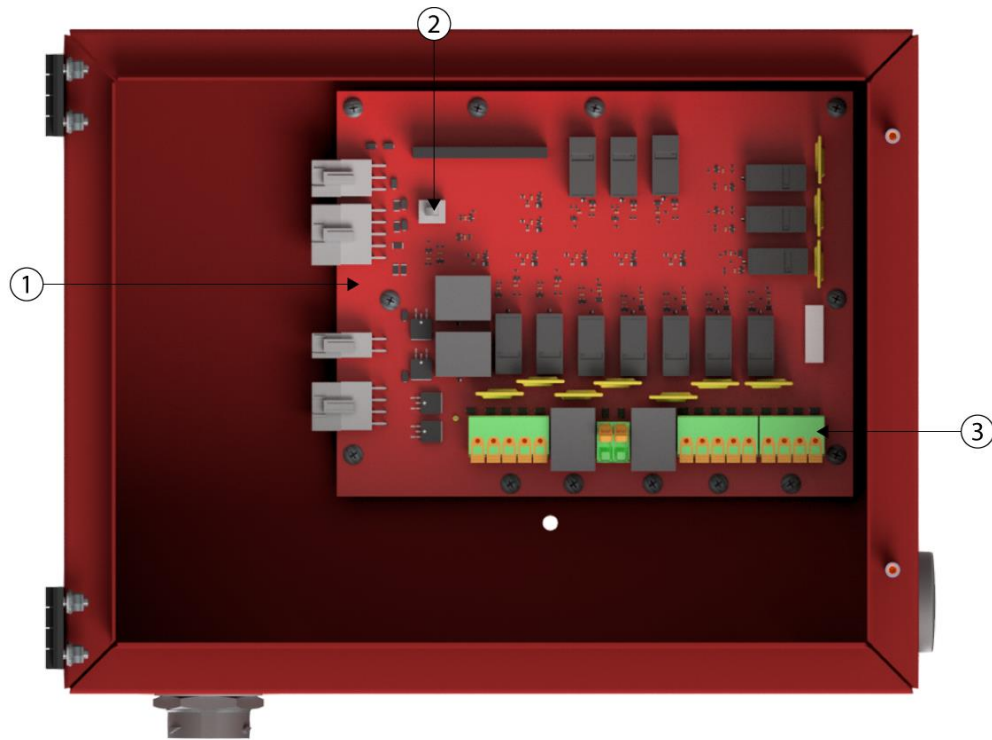

Figure 2-4
The **Terminal Board** (Figure 2-4 item 1) is located on the back wall of the TSP-M enclosure. Receiving instructions from the control board, the terminal board activates relays and resistors in higher current and voltage requirements for engine functions.
2.11.1. The **Emergency Run Override** (Figure 2-4 item 2), utilized only on energized to run engines, will manually switch battery voltage to the fuel run solenoid. (Positioning the switch to the right is ON.) **IMPORTANT:** This override should **ONLY** be used if the engine is configured as ETR (energized to run) **AND** the control board is nonfunctional.
2.11.2. The **Interconnect terminals** (Figure 2-4 area 3) are located on the bottom edge of the TSP-M Terminal Board. The terminal board features individual lever actuated spring cage connections. Fire pump controller wiring will no longer need to be screwed into the terminal strip.